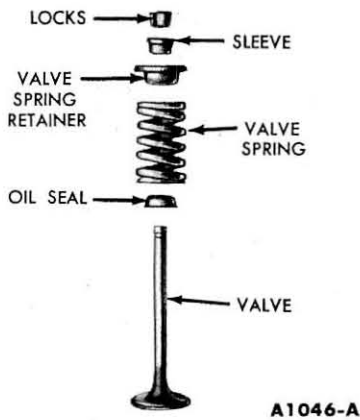

FIG. 26—Rotating Valve Assembly
3. Position each valve in the guide from which it was removed or to which it was fitted (Fig. 26 or 27).